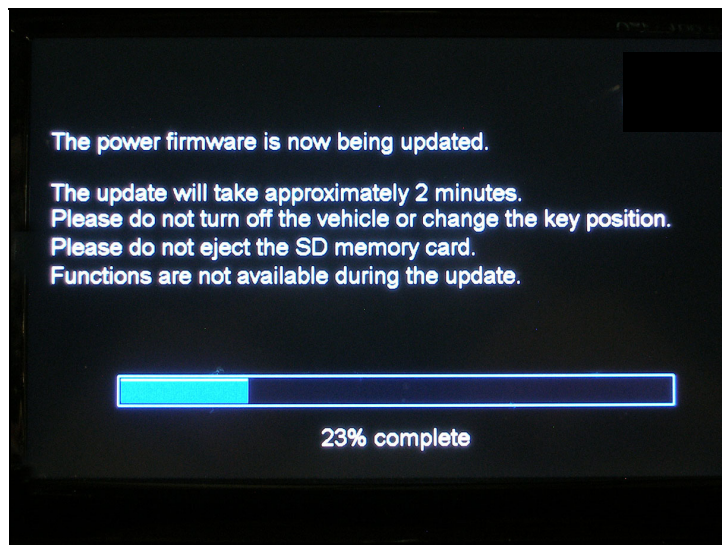

Figure 15
15. After the screen in Figure 14 appears, a screen showing an update status progress bar will then appear (see Figure 15).